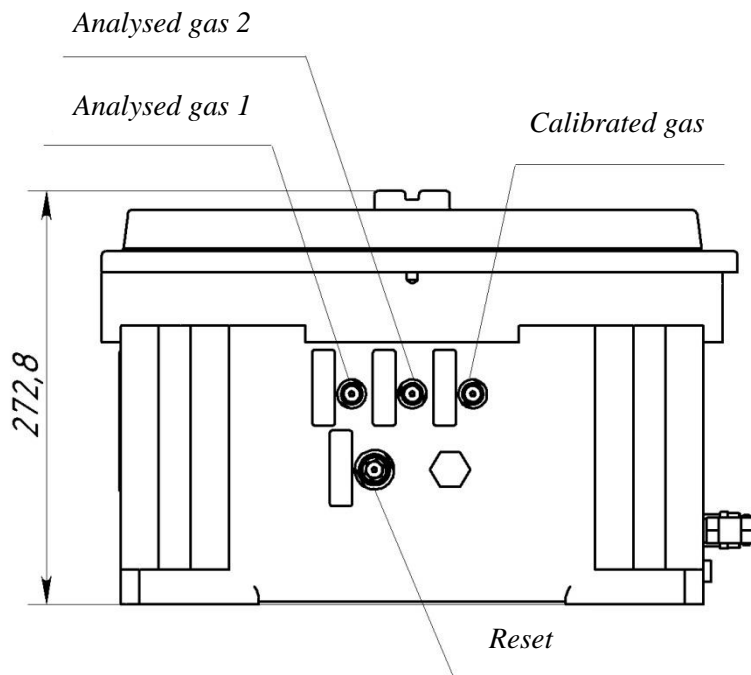

Fig. 8. Purpose of the Gas Service Pipes
2.4.4.1 Connection of the gas lines of the analysed gas and reset. Legend of the gas inputs is shown in Fig. 8:
- purge the calibration gas line to remove oxygen and connect it to the corresponding input of the analyser (Fig. 8). The valve K4 controls the calibration gas (Fig. 5). Monitor changes in the sensor readings, using the software "X-meter" go to Tools/Zero Adjustment.